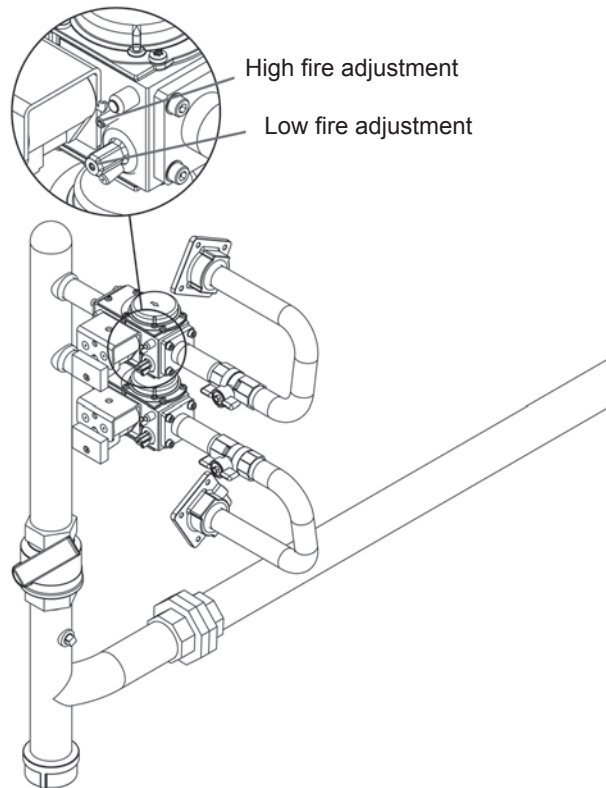

Fig. 101 – High and Low Fire Adjustments on Gas Valve
- On the gas valve for the Primary burner on the boiler, locate the adjustments for the high fire CO_2 and low fire CO_2 . See Fig. 101.